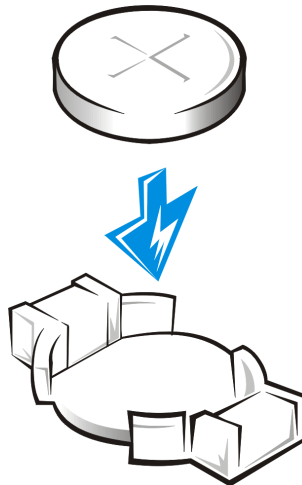

Figure 8-10. Installing the Battery
7. Install the new battery with the side labeled "+" facing up (see Figure 8-10).